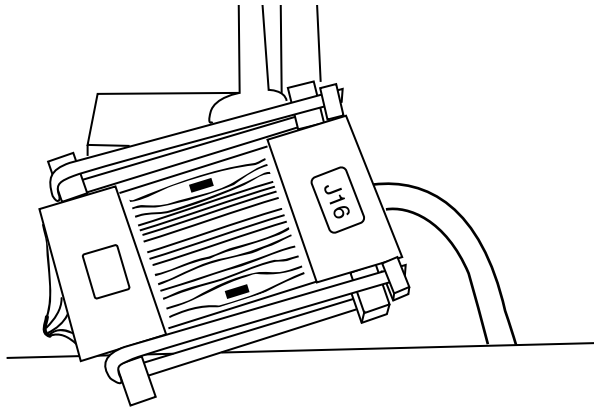

Figure 5-11. Connecting J2 to J16
4. Using a small screwdriver, remove the cable access door from the rear of the register. Position the cable to connect J2 to J16 using the jumper PCB. Make sure J2 and J16 are positioned so that the X and • align. (Some cables are marked with TERM rather than •.) Use the tie wraps provided to secure the connection. See **Figure 5-11**.